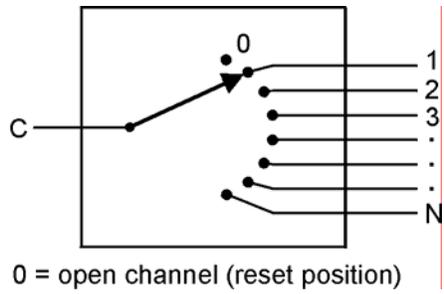

Figure 2: Single-Common Configuration
The common input channel (C) is connected to the output channel (1). The reset position (0) of the switch is an open circuit. Figure 2 shows this configuration.